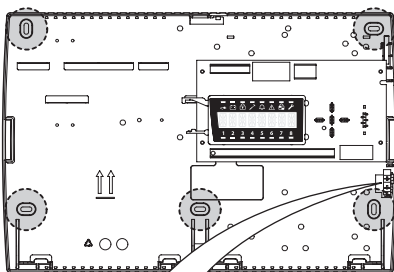

fig. 3
- using the bottom of the Control panel as a template, mark the position of holes for fixing shown in figure 3, making sure that the wall is flat at the selected position;